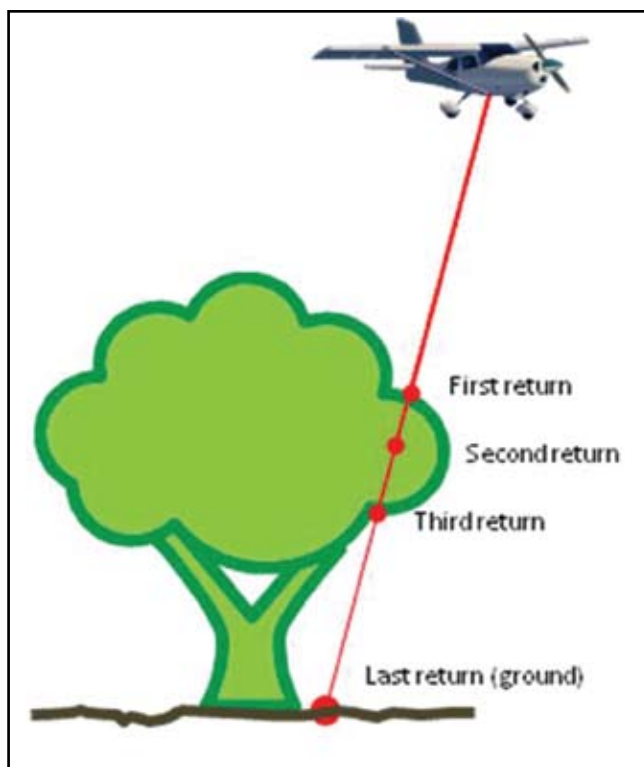

Figure 1: Multi-return LiDAR
- Multi-return capability. For a single pulse of outgoing light, modern systems can record several returns. This differentiation between *outgoing pulses* and *incoming returns* is important, and a common source of confusion. A pulse of light will typically have spread out to around 200mm in diameter by the time it hits the ground, from which it is partially reflected and partially absorbed. Some of this reflected light reaches the sensor and counts as a single return. As a tree canopy is not smooth at a scale of 200mm, a pulse can hit the tree several times on the way down and different parts of the beam will be reflected from different heights through the canopy. The reflected signals from the canopy will return to the sensor before the light that hit the ground (see Fig.1). Modern LiDAR units can collect 'multiple returns', and record several differently heighted returns for a single pulse. This greatly improves the chances of getting ground returns, and will significantly increase your effective point density over vegetated areas.